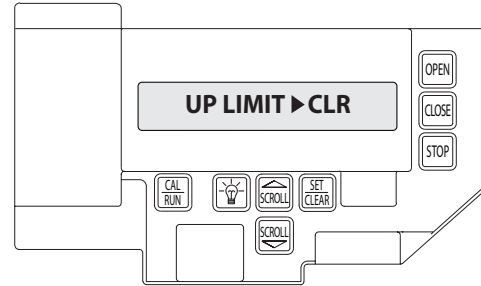

Figure 7
- 2) Press SCROLL  until display reads "UP LIMIT>CLR" or "DOWN LIMIT>CLR" **Figure 7.**